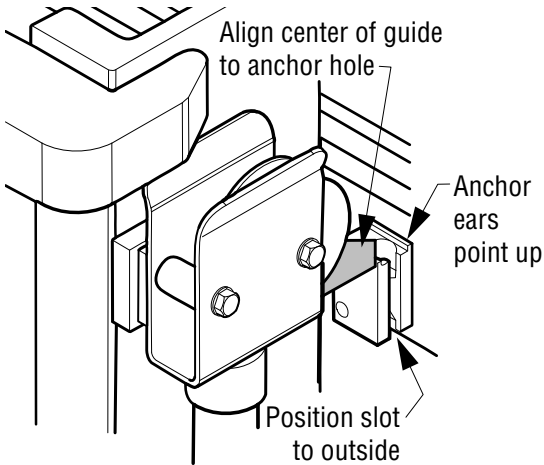

Figure 1-7 Mark anchor position
4. Mark anchor position. See Figure 1-7. Make sure to position the slot in the anchor to the outside of the attachment. The ears on the anchor should be facing upward.